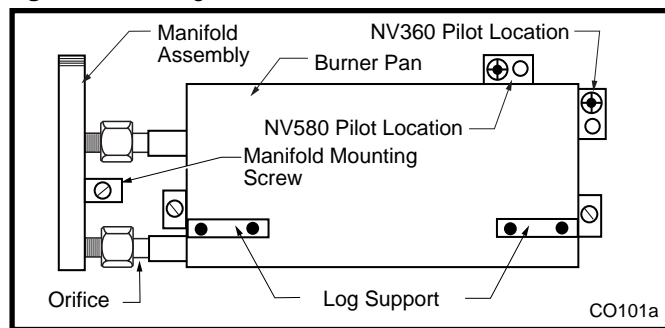

Fig. 22 Removing manifold assembly.
7. Remove manifold mounting screw from burner. (Fig. 22)